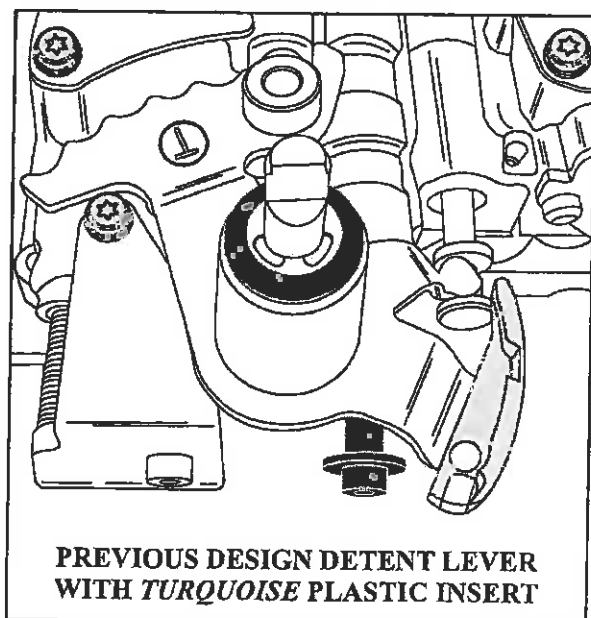

Figure 1
- CAUSE:** The safety neutral switch and the valve body detent lever changed for the 2000 model year. The switch is longer and the detent lever dimensionally changed to accommodate the new switch. Figures 1 and 2 show the dimensional differences between the previous and current design detent levers. Figures 3 and 4 illustrate the correct and incorrect assembly using the short switch. Figure 5 shows the correct assembly using the long switch.